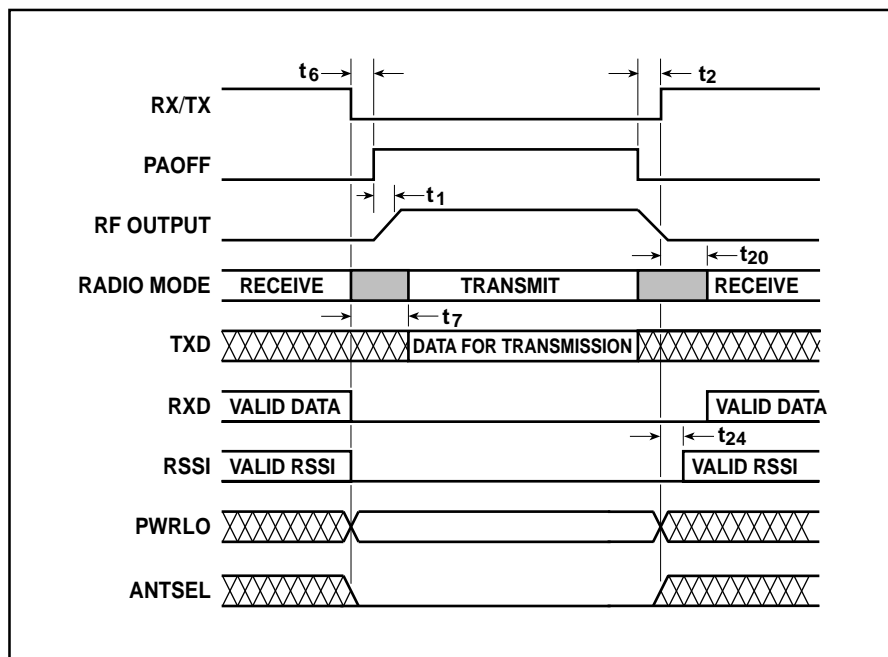

Fig. 3 Timing control diagram
The timing diagrams, Figs. 3 to 8, show some of the normal sequences used in the control of the DE6003 and are used to illustrate timing relationships. Table 6 is the truth table for these signals values for which are given in Table 7. Each entry in Table 7 is described on pages 9 and 10.
$T_{AMB} = 25^{\circ}\text{C}$ ,  $V_{CC} = 5\text{V} \pm 5\%$ ,  $V_{CC-5} = +3\text{V}$  to  $+6\text{V}$ , data rate = 625kb/s. Refer to Figs. 3 through 8 and Notes on pages 9 and 10.
### 2. Transmitter Power Amplifier Control, PAOFF ( $t_1, t_2$ and $t_6$ – see Fig. 3)
### 5. Receive Mode to Valid Transmit Data ( $t_7$ – see Fig. 3)
**16. Transmit to Valid Received Data ( $t_{20}$  – see Fig. 3)**
( $t_{24}$  – see Fig. 3)